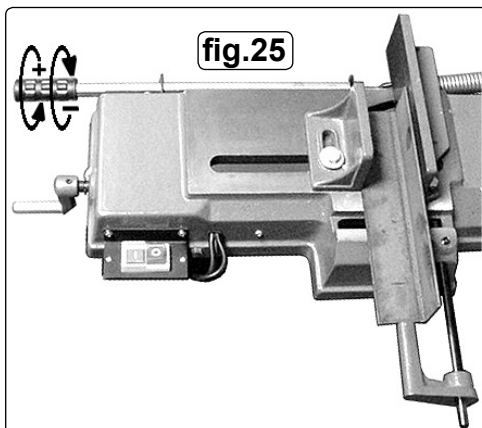

fig.25
- 7.6.2. If the saw is making crooked or rough cuts or overheating is occurring it may be necessary to decrease the feed pressure by turning the chromed adjusting rod in a clockwise direction as shown in fig.25.